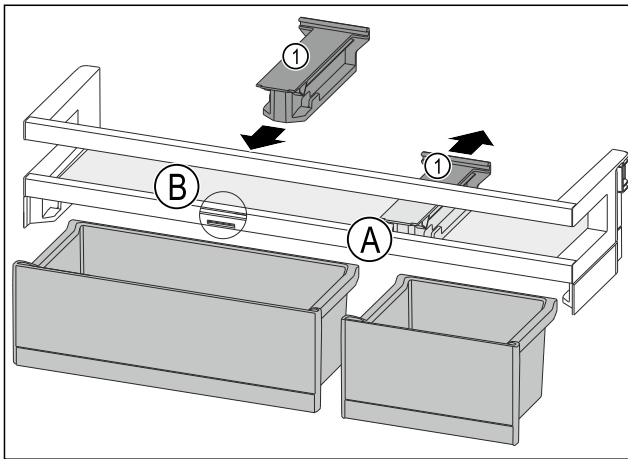

Fig. 85
- ▶ Pull off the retaining part Fig. 85 (1) in position Fig. 85 (A) downward.
- ▶ Insert the retaining part Fig. 85 (1) in position Fig. 85 (B).